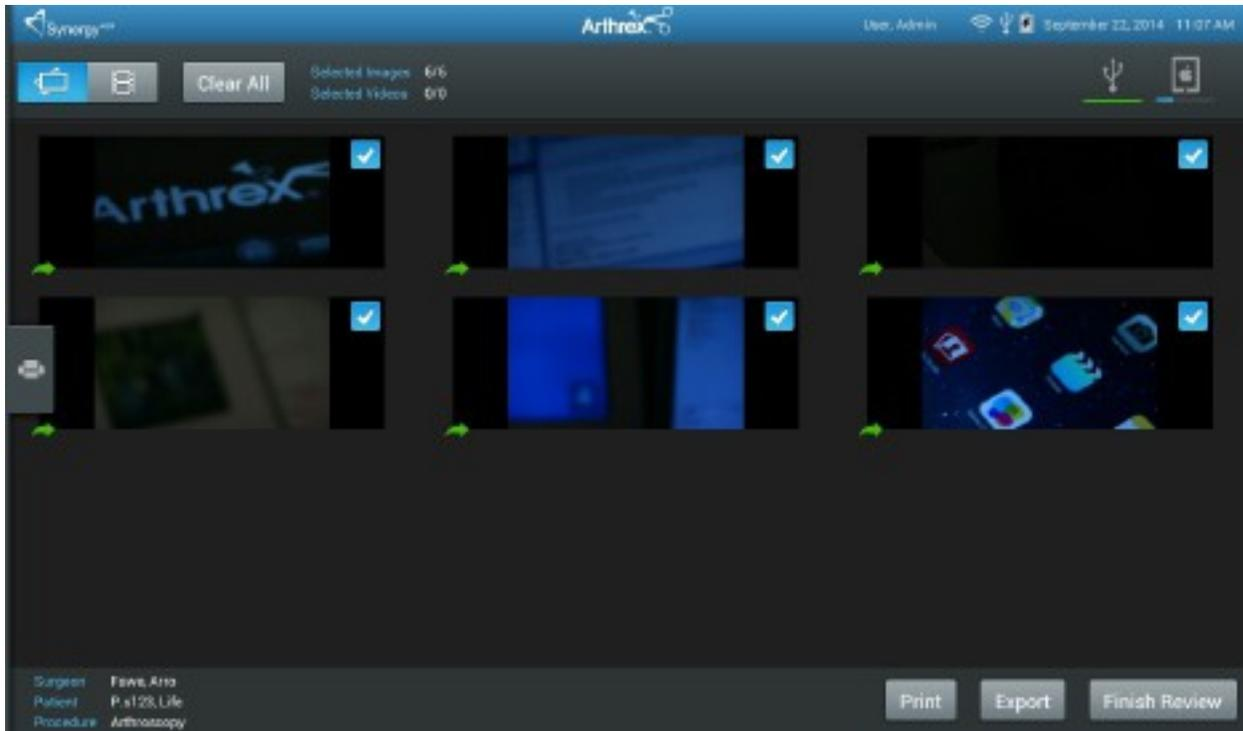

Figure 33 -Export Status
2.6.2 The system in Figure 33 displays a successful USB export and an iPad export in progress.